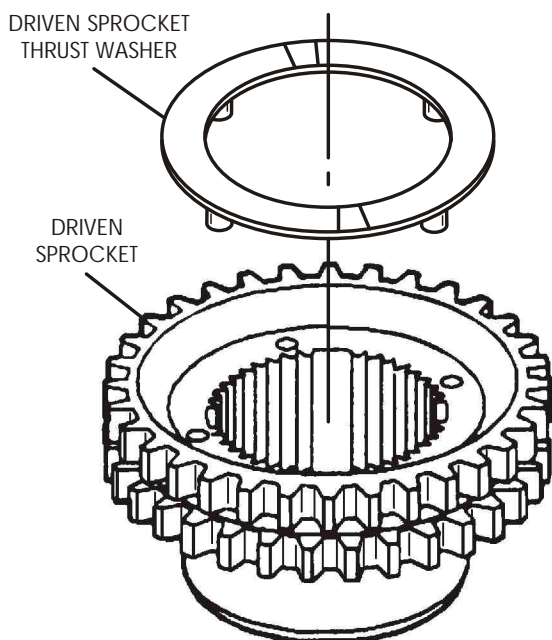

Figure 144
5. Inspect the driven sprocket assembly and the thrust washer for any wear or damage, replace as necessary (See Figure 144).
6. Install the driven sprocket thrust washer into the driven sprocket and retain with petrolatum (See Figure 144).